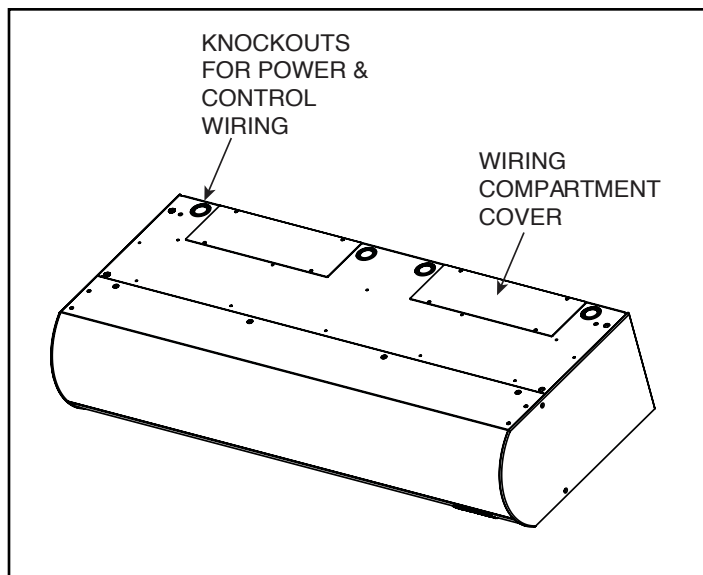

Figure 7 - Electrical Connections
- A. A separate line voltage supply with a suitable branch circuit protection device should be run directly from the main electrical panel to the unit. A disconnect switch for each branch circuit is a required part of this installation. See the voltage label on the unit for circuiting and total electrical load. The wiring diagram is located in the wiring compartment, located on the top of the unit. **See Figure 7.**
See Figure 7.